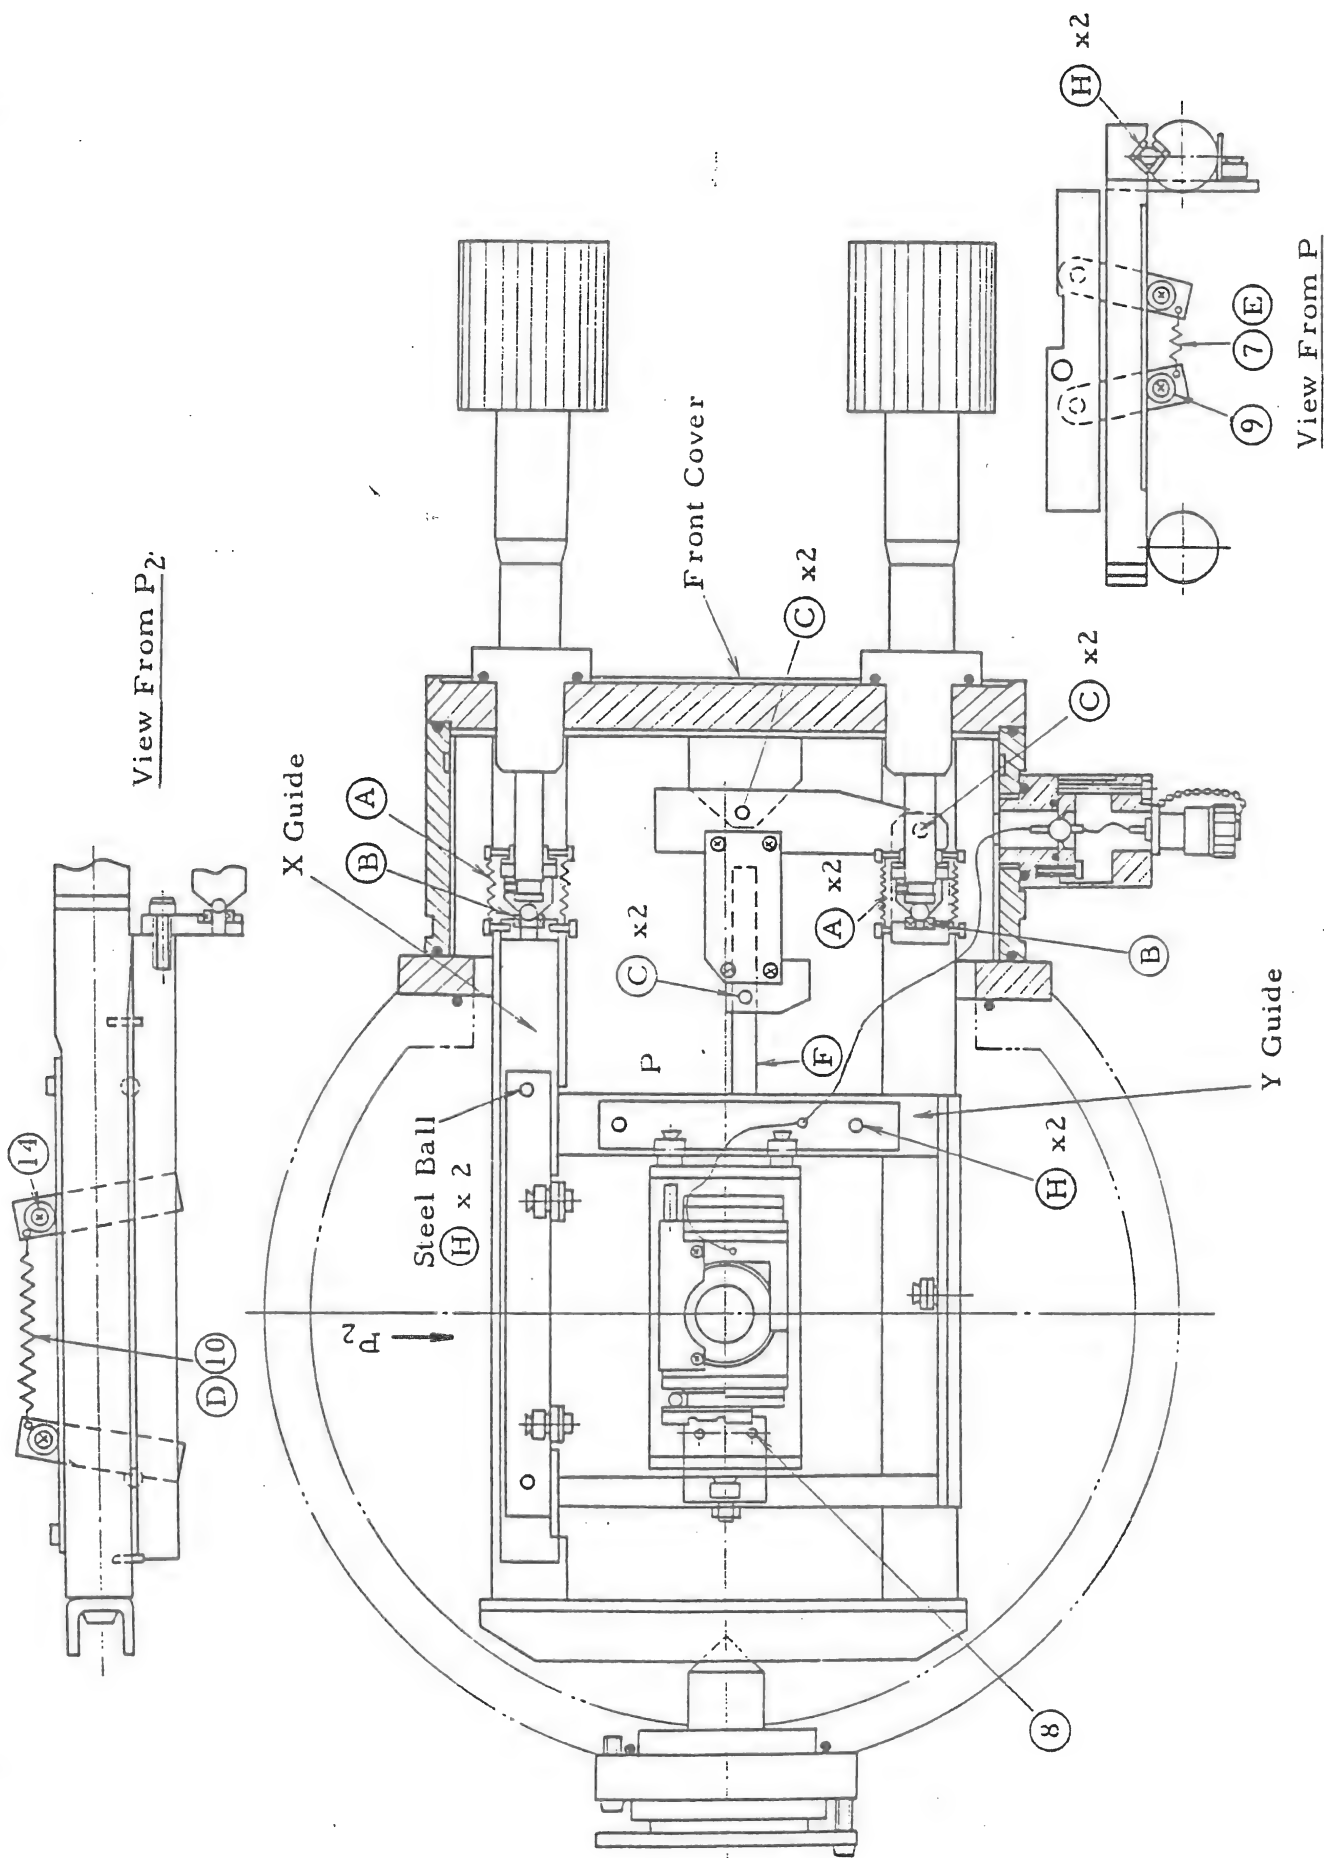

Fig. 4-13 Plan of Specimen Goniometer Stage
- 1) Loosen spring ⑩ (Fig. 4-13).
- 2) Loosen screw ⑭ (Fig. 4-13) to detach two bearings.
- 1) Detach spring ⑦ (Fig. 4-13).
- 2) Loosen two screws ⑨ (Fig. 4-13) to detach the bearing.
- 3) Loosen two screws ⑧ (Fig. 4-13) to detach the part.
- 2) Check if spring (A) (Fig. 4-13) is normally fixed to the tip of X, Y knob.
- 3) Check if bearing (B) (Fig. 4-13) is properly mounted.
- 4) Check Y-lever pivot (C) (Fig. 4-13) for play.
- 5) Check if springs (D), (E) (Fig. 4-13) are properly mounted.
- 6) Check if Y-guide shaft (F) (Fig. 4-13) is securely clamped.